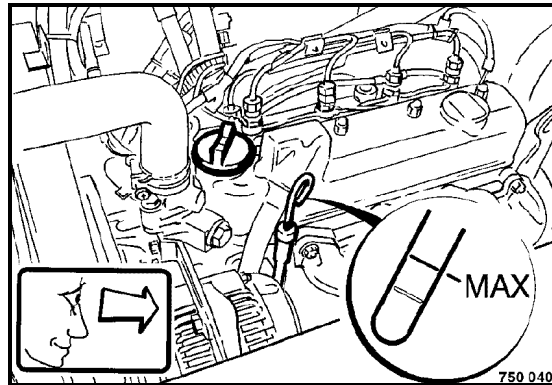

Fig. 102
- After a short test run check the oil level once again (Fig. 102), if necessary top up to the top mark (MAX).